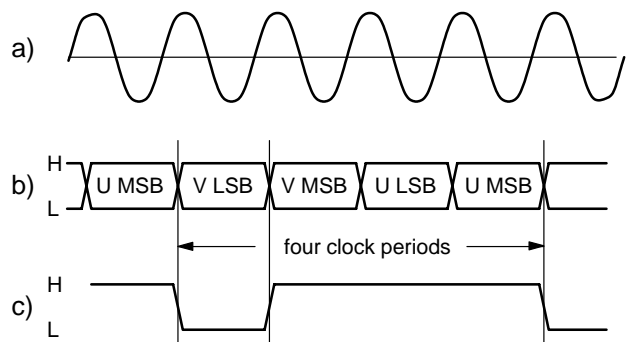

Fig. 2-8: Timing diagram of the multiplexed color difference signal transfer between decoder and CIP 3250A
In DIGIT 2000 mode, via pins 36 to 39, the CIP 3250A receives the V and U signals from the C0 to C3 outputs of the color decoder, time-multiplexed in 4-bit nibbles (Fig. 2-8). For the digital signal processing, the 4-bit V and U chroma nibbles are demultiplexed to 8-bit signals by the V and U demultiplexers. Both demultiplexers are clocked by the main clock. They are synchronized to the V and U transmission during the vertical blanking period.
**Notes to Fig. 2-8:**